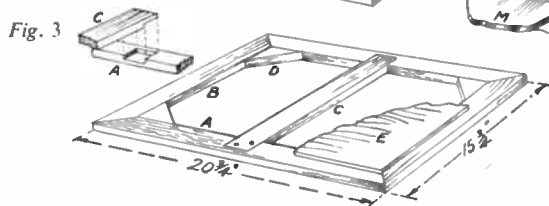

Fig. 2
is experienced in turning over and making a neat hook, a cheese-headed screw can be used for the job. The top of the head is filed down to remove the slot and then the sides cut to the shape shown by the dotted lines in Fig. 2.
First make a flat base as Fig. 2. Cut the four mitres of the rails carefully to 45 degrees, and cut in the recess in the long rails (A) for the cross-rail (C). The method of cutting these are given in Fig. 3. Glue all the parts together and add screws at the ends of the rail (C). Add the four blocks (D) which will help to strengthen the frame.